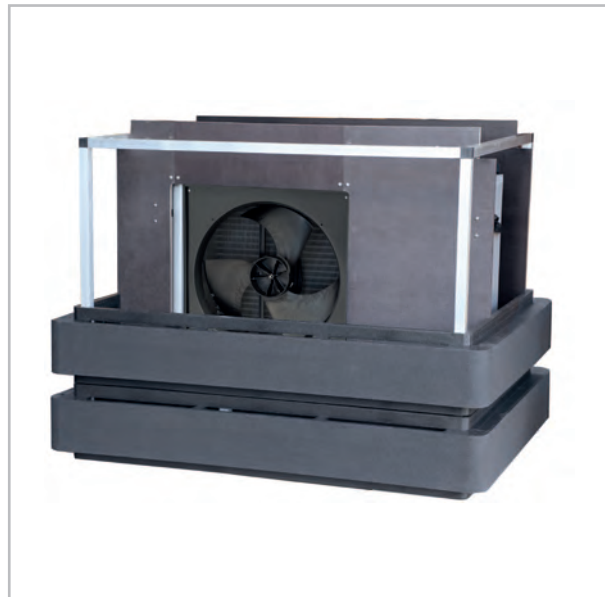

Fig. 37
- 25.** The support for the buffer (Fig. 36) is installed on the fastening point on the top and bottom aluminium frame, as shown in Fig. 37.